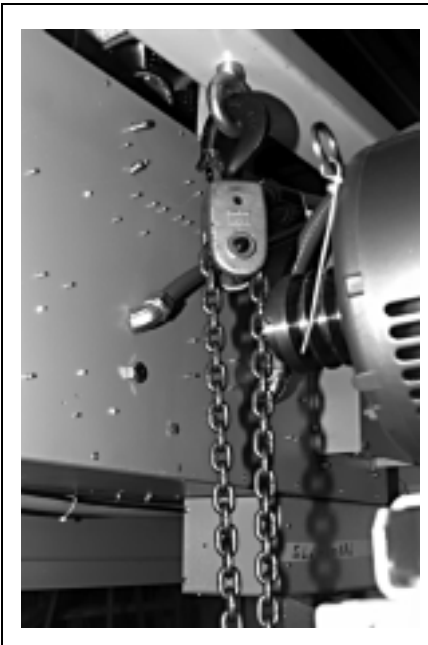

FIGURE 9 (MSSM0285AE)
3. Install hoist and sling (FIGURES 9, 10, and 11).